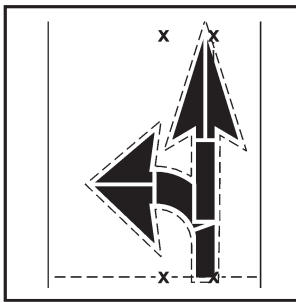

Figure 25
8. Mark around the entire arrow assembly with grease chalk or keel (see Figure 25).